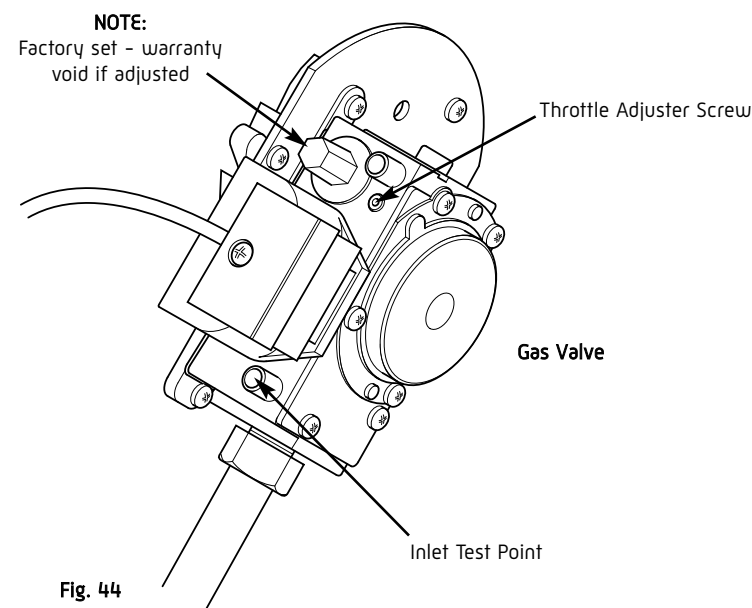

Fig. 44
1. With the boiler firing at maximum gas rate, check that the inlet pressure at the appliance is 19mbar +/- 1mbar when measured at the inlet pressure test point (Fig. 44). To set the boiler to maximum gas rate see section 11.0 (Service Mode).